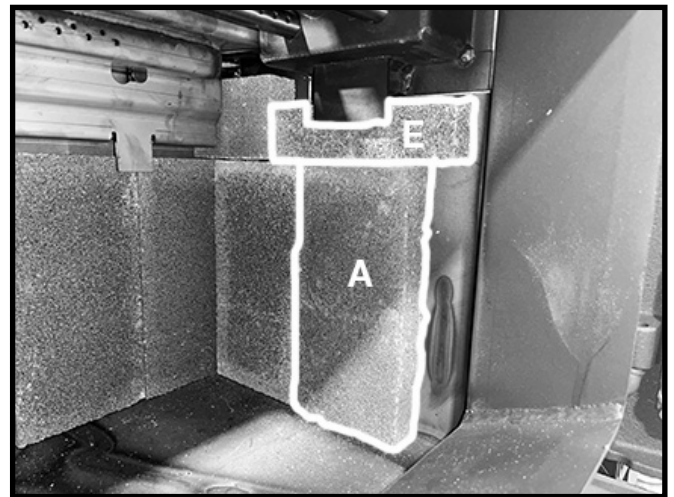

Figure 14: Second side wall firebricks in place.
4. Next, place an "E" firebrick up under the side brick retainer tab and stand another "A" brick beside the first one under the "E" firebrick. Figure 14.